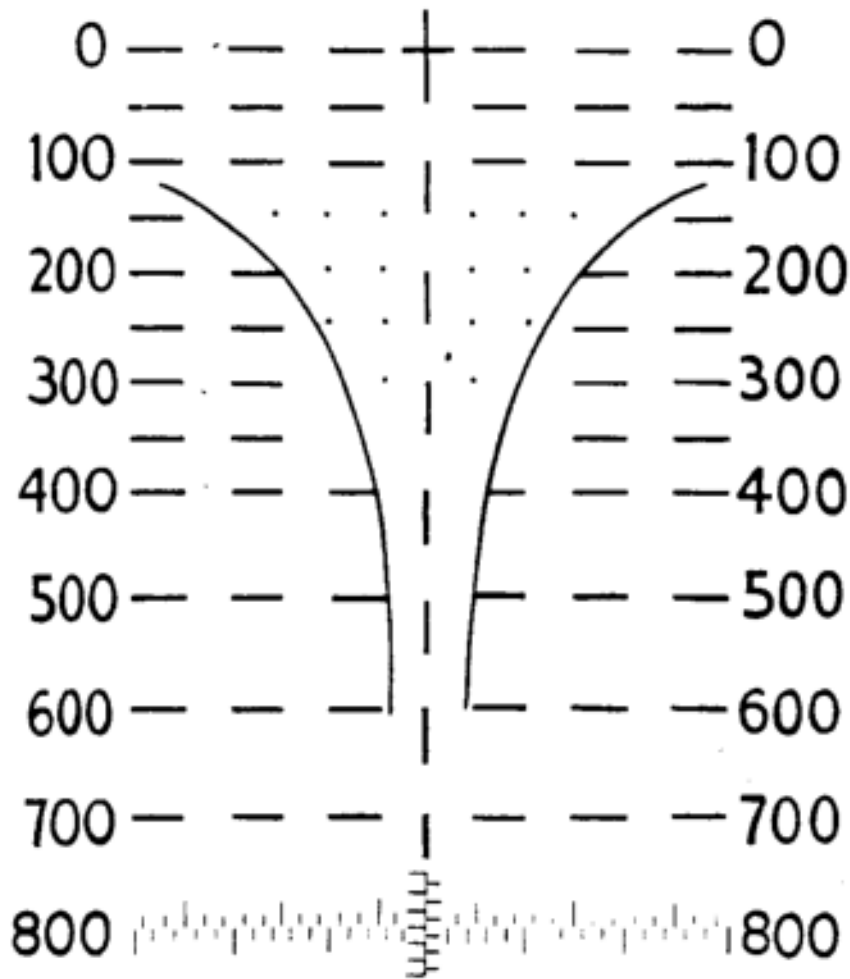

Figure 3. Sight reticle, M103 sight.
- a.* The M103 telescope has a fixed-focus, 3-power magnification, and a field of view of 10° (fig. 3).
b. The reticle is an optical glass disc with an 0.749-inch aperture etched with a metric scale. It is graduated at 50-meter intervals at ranges up to 400 meters, and numbered every 100 meters up to 800 meters. Speed-lead indicator lines are provided at 50-meter intervals up to 400 meters and at 100-meter intervals from 400 and 800 meters. The vertical range line is extended through the 0 line to form a boresight cross. The broken horizontal lines are speed-lead indicators. Each line or space represents 2.5 mph of apparent speed. The curved lines are stadia lines, and are used to estimate ranges to targets of known dimensions. The average tank is 20-feet long and 10-feet wide; therefore, the stadia lines have been calibrated to coincide with these dimensions from 100 to 600 meters of range. A level vial at the bottom of the reticle provides a zero cant reference for the telescope so that it may be kept level when boresighting and firing the weapon (fig. 3).